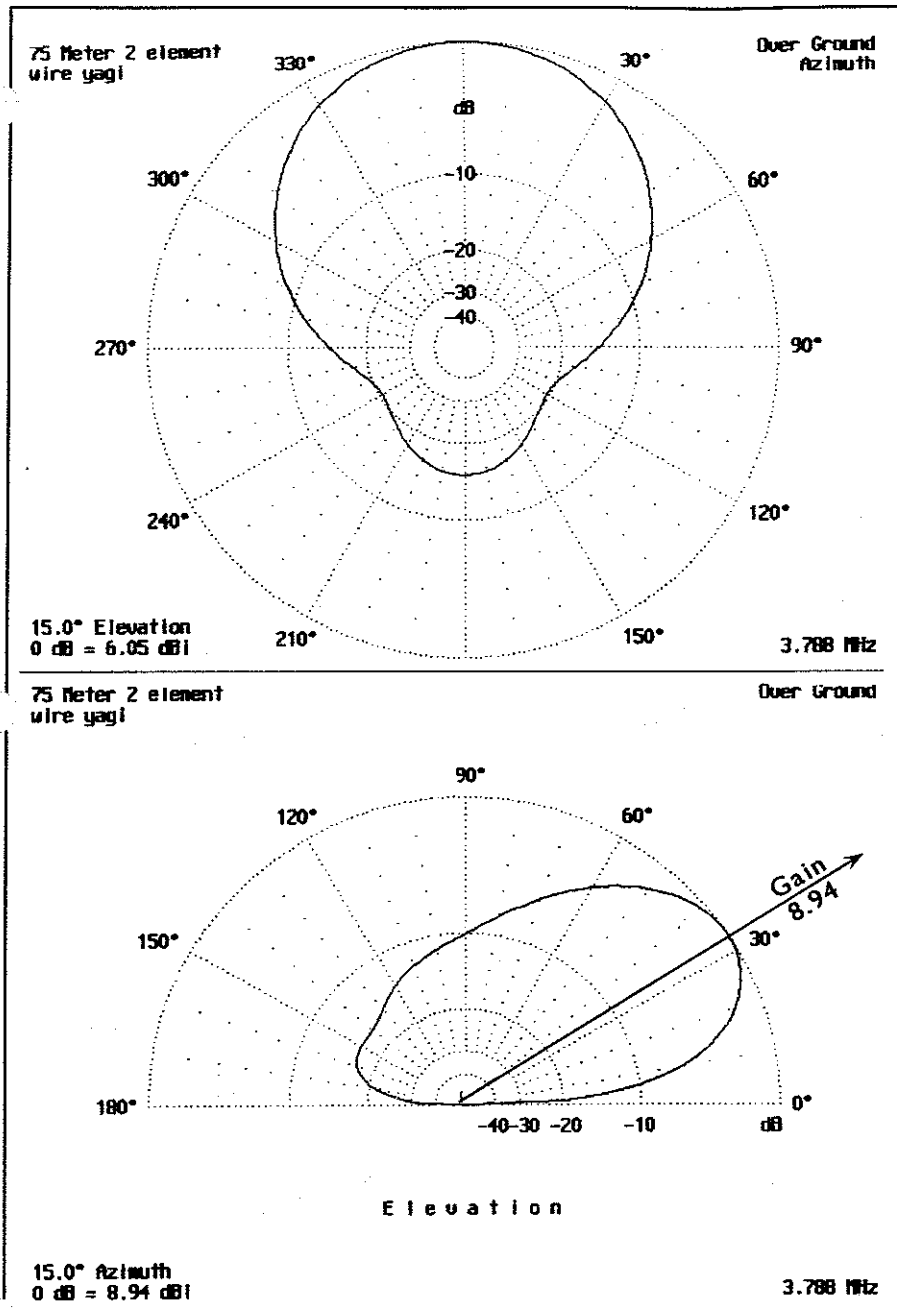

Fig. 8— Radiation pattern at 3.788 MHz.
1.04 to 1.88 and the gain went from 9.25 dBi to 7.76 dBi. This is "short" antenna performs beautifully. Fig. 8 shows the radiation pattern at 3.788 MHz.